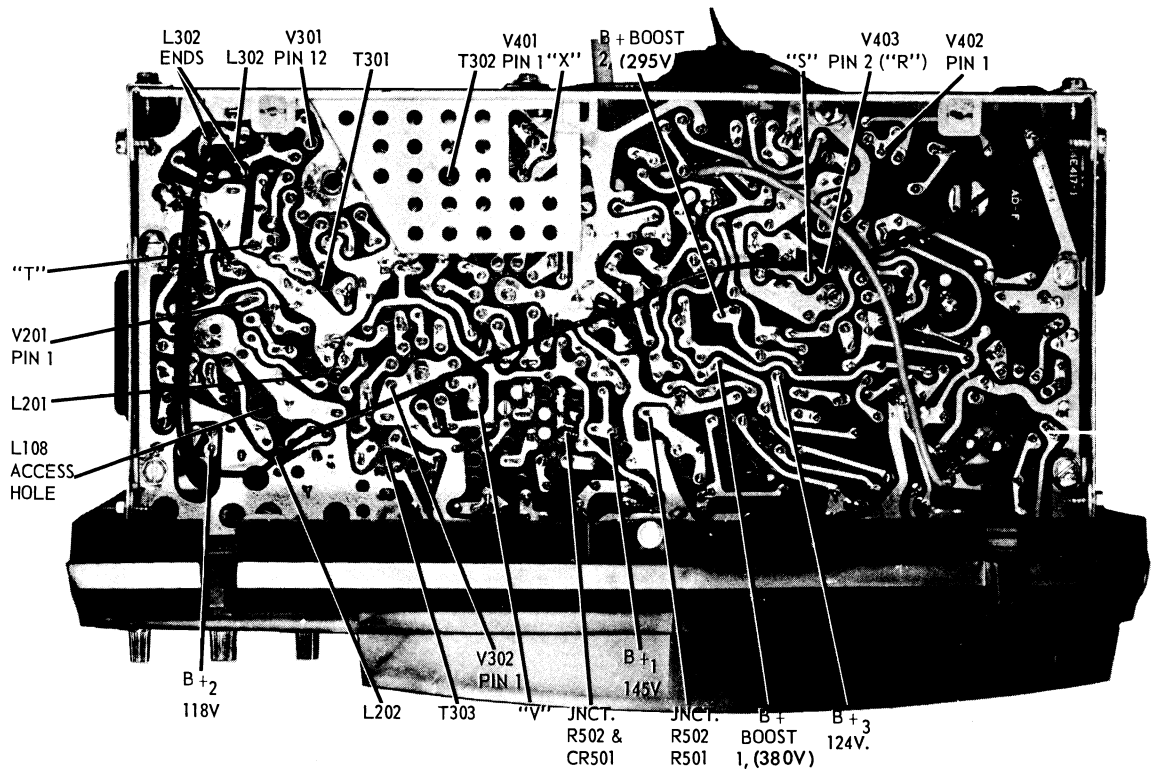

Fig. 8 BOTTOM VIEW OF CHASSIS SHOWING IMPORTANT SERVICE LOCATIONS
Connect isolation transformer and polarized line cord between AC line and receiver. Connect negative of 6 volt bias supply to test points "T" and "X" (IF and RF AGC), positive to chassis. See figure 8 for test points and alignment locations.
Set VHF Channel Selector on channel 12. Connect negative of -6 volt bias supply to test point "T" (IF AGC) and -1.75 volt to test point "X" (RF AGC) positive to chassis. See Fig. 8.
1. Tune in normal picture on strongest TV station. Allow about 15 minutes for set to warm up. See figure 8 for adjustment locations.